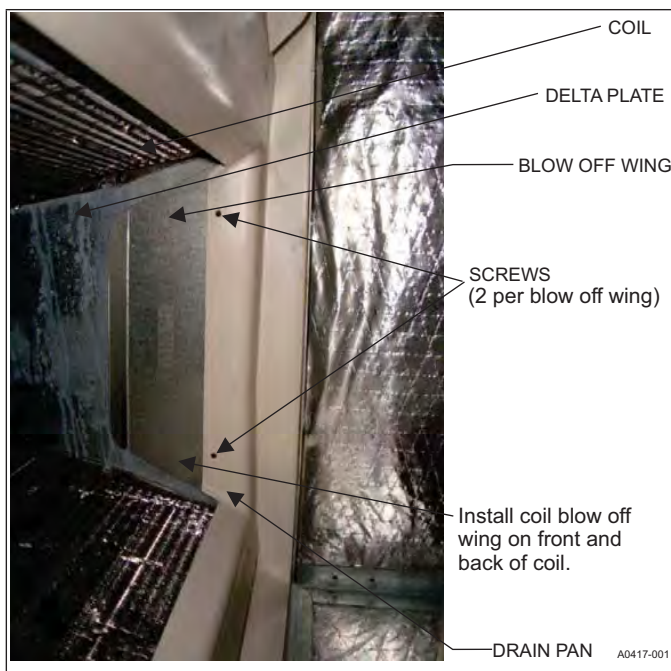

FIGURE 5: Coil Blow Off Wing Installation
- For horizontal right applications, the front and back coil blow off wings must be installed (blow off wings are shipped with the unit). Locate 4 screws securing coil delta plates to coil drain pan. Loosen the screws. Slide each coil blow off wing between the drain pan and the coil delta plate. Tighten screws to secure coil blow off wings. Refer to Figure 5.